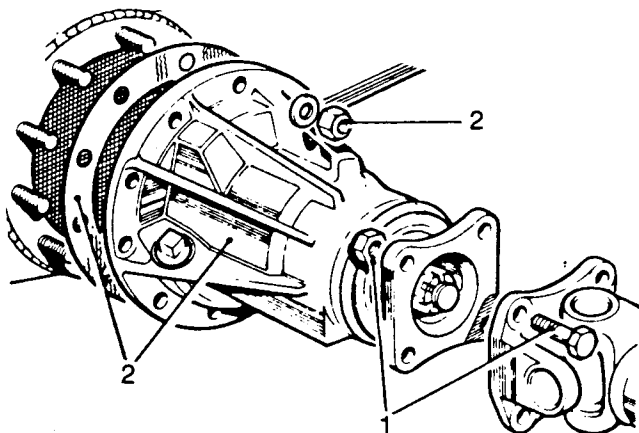

Fig J2.14
- (1) Refer to Fig J2.14. Position the differential assembly and secure with the fixings (2).
- (2) Refit the propeller shaft and secure with the fixings (1).